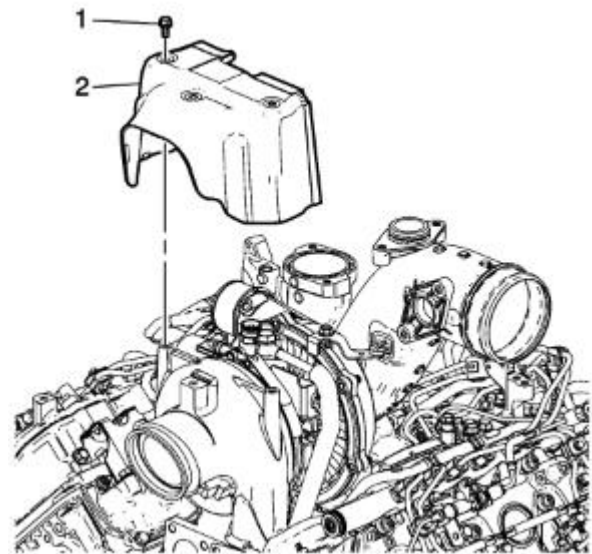

Fig. 118: Turbocharger upper heat shield installation
- h. Install the turbocharger upper heat shield as shown in figure 118. Torque the bolts to 89 in-lb.